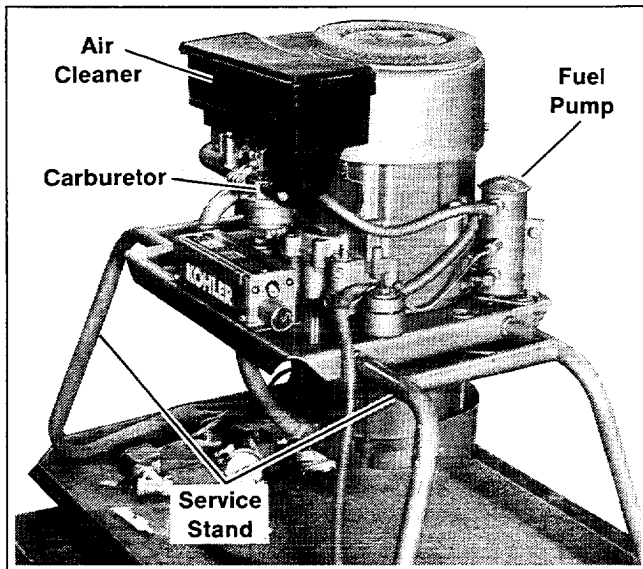

Figure 1. Removing Gasoline Parts
5. Remove generator set from coach and mount servicing stand kit PA-228102 (Gold) or PA-228208 (Beige). See Figure 1. If servicing stand is not used, support generator set at tray flanges. Do NOT rest on generator end bracket.